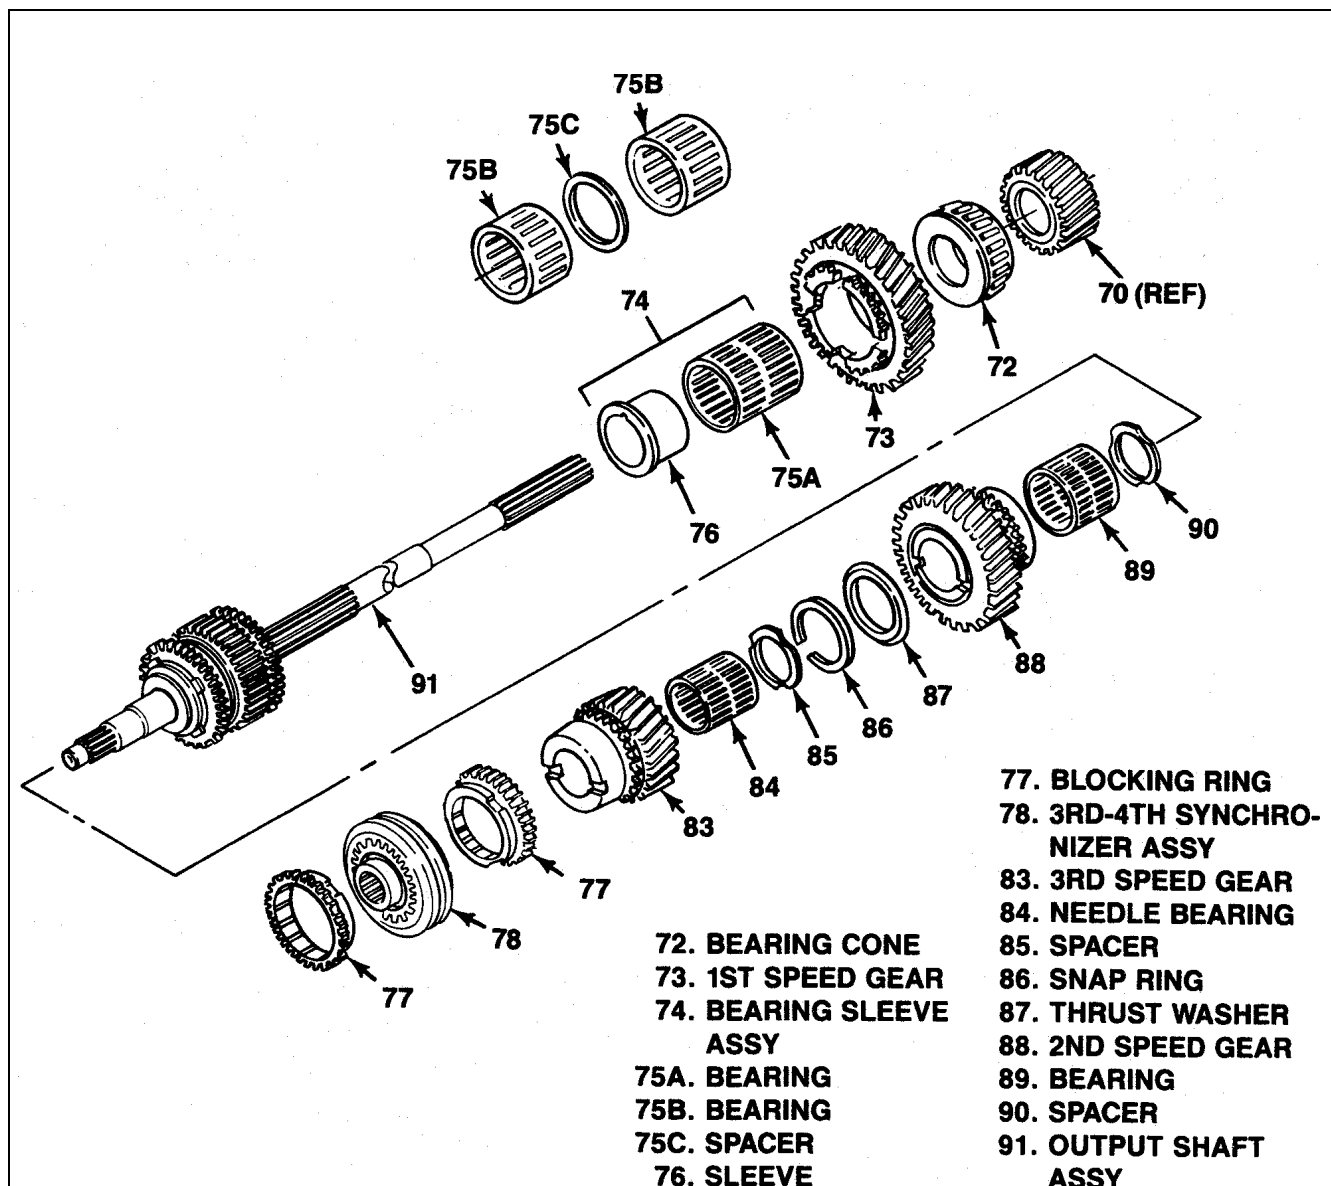

Figure 6-9. Assembly of T5 WC Output Shaft Assembly
6.11. ASSEMBLY OF T5 WC OUTPUT SHAFT GROUP. After assembly of output shaft assembly (91) as described in paragraph 6-10, proceed as follows (see figure 6-9):
- a. Install spacer (90) , bearing (89), 2nd speed gear (88), thrust washer (87) and snap ring (86).
- b. Install spacer (85), bearing (84), 3rd speed gear (83) and one blocking ring (77).
- c. Install 3rd-4th synchronizer assembly (78) (as assembled in paragraph 6-6), aligning notches in installed blocking ring (77) with synchronizer inserts. Use a suitable drift that bears on synchronizer hub only.
- d. Install remaining blocking ring (77), aligning notches with inserts in installed 3rd-4th synchronizer assembly (78) .
- e. At other end of assembly, install sleeve (76) and 1st speed gear bearing as follows, according to type: